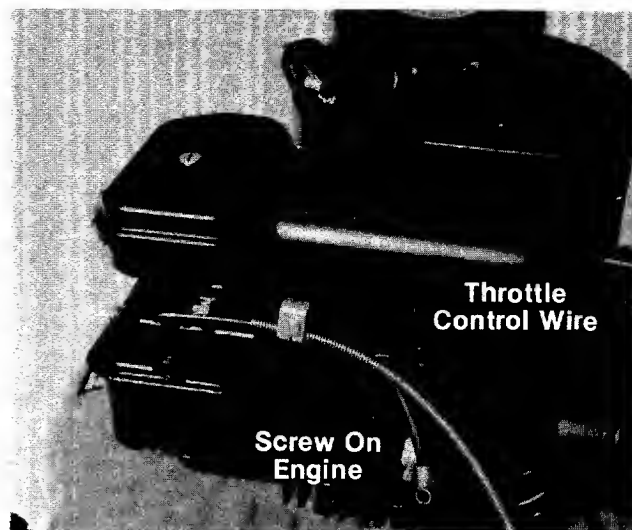

FIGURE 10.
1. Loosen, but do not remove, screw securing throttle control wire assembly at engine. See figure 10.